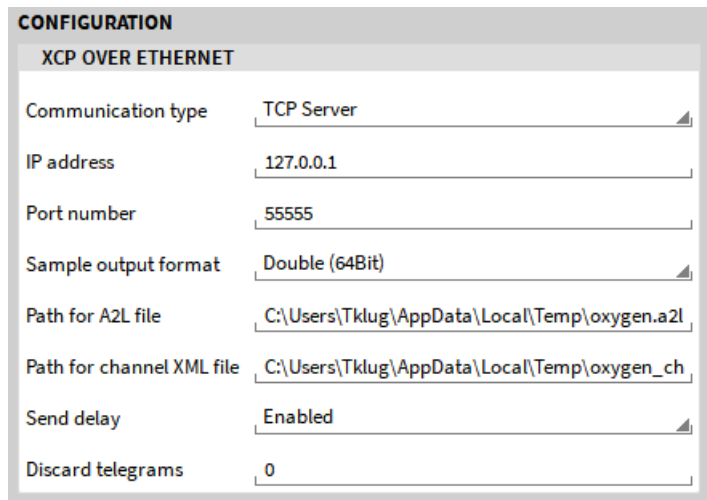

Figure 2-3: Configuration for XCP over Ethernet settings
- After leaving, the a2l-file must be selected. The path can be found and edited in the OXYGEN XCP configuration (see Figure 2-3):